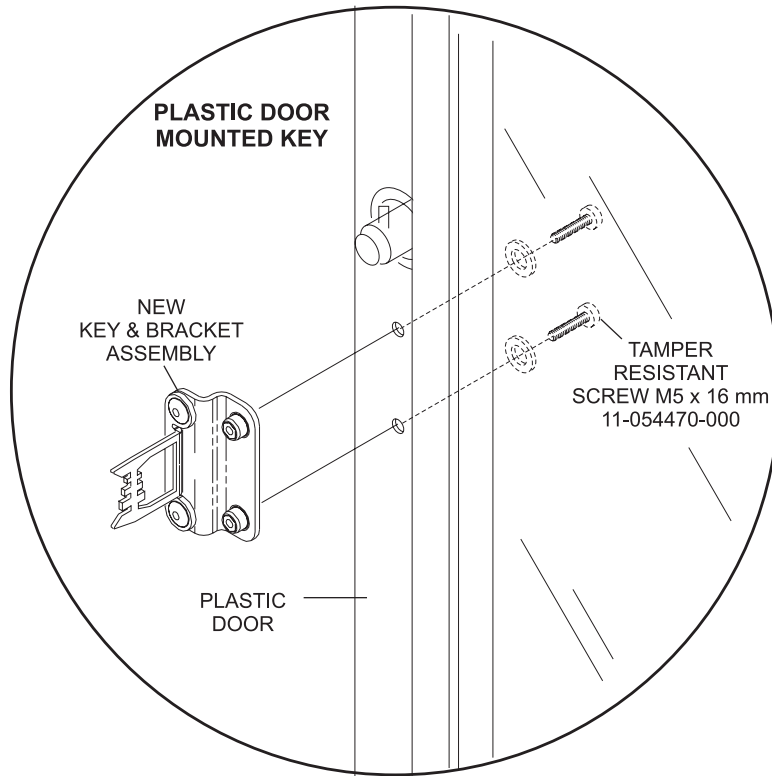

Figure 6
4. Install new key assembly to plastic door with tamper resistant screws (11-054470-000). Refer to *Figure 6*.